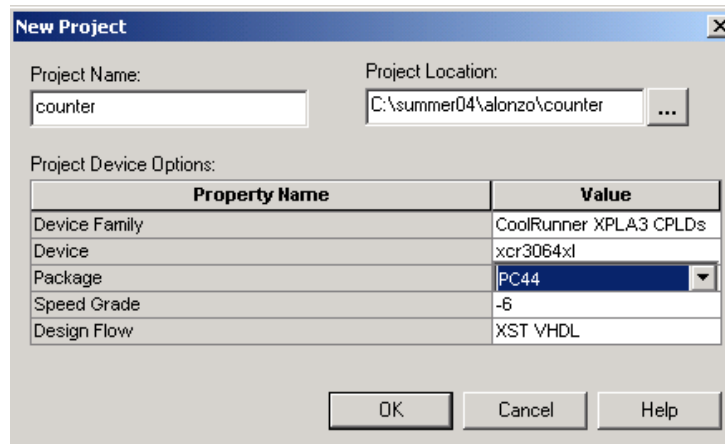

Figure 5; Creation of a project. The format for **Project Location** must be “C:\summer04\student_name\”
2. Create counter project; In the Project Navigator, select **File** → **New Project** and setup options as in figure 5. Click **OK**.
5. Components instantiations; Once the components are declared, they must be instantiated. This means the connections between components and/or signals inside the system must be declared. The declaration area for components instantiations is under the comment – *Components Instantiations* – in the `disp_controller.vhd` file. Use the inverter instantiation as an example. Use the block diagram in figure 5 as a map to complete the connections.